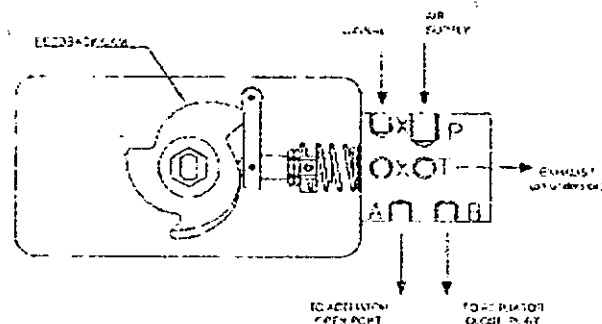
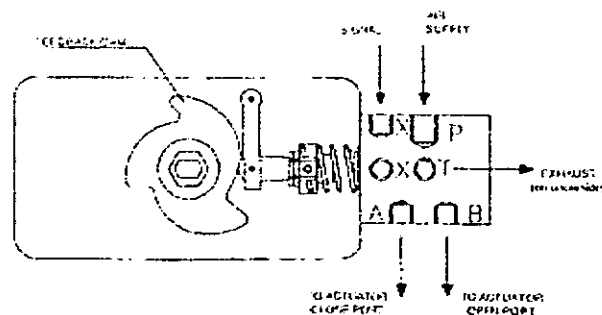

FIG. 1 - Direct Operation
FIG. 2 - Reverse Operation
4. Connect the air ports as shown in Fig.1 for direct action and in Fig.2 for reverse action.